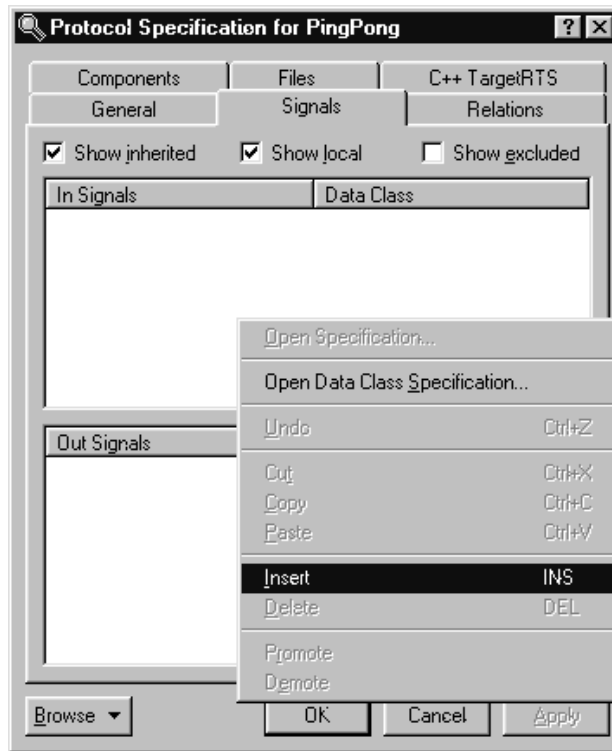

Figure 13 Protocol specification window
4. Open the pop-up menu on the **In Signals** panel (by right clicking on the white space below **In Signals** as shown in Figure 13) and select **Insert**. A new signal is added and its default name is highlighted.